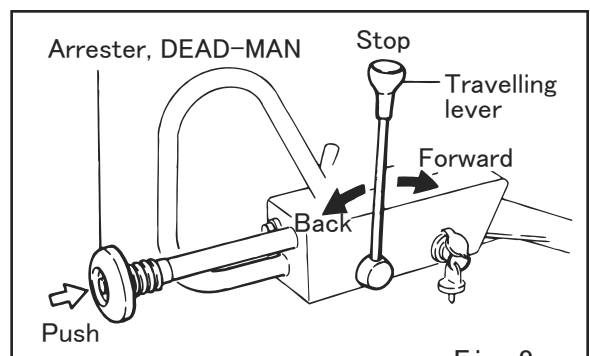

Fig. 8
- With travel lever placed in reverse, push Arrester, DEAD-MAN to verify that travel lever returns to neutral position. (Fig.8)
- Pushing travel lever slightly forward, causes the roller to travel forward at micro speed. Pushing it further, increases the travel speed. Depending on how you move the travel lever, travel speed can be varied steplessly between 0 and 3 km/h (for both forward and reverse). Pulling the lever back causes the roller to travel backward. (Fig.8)